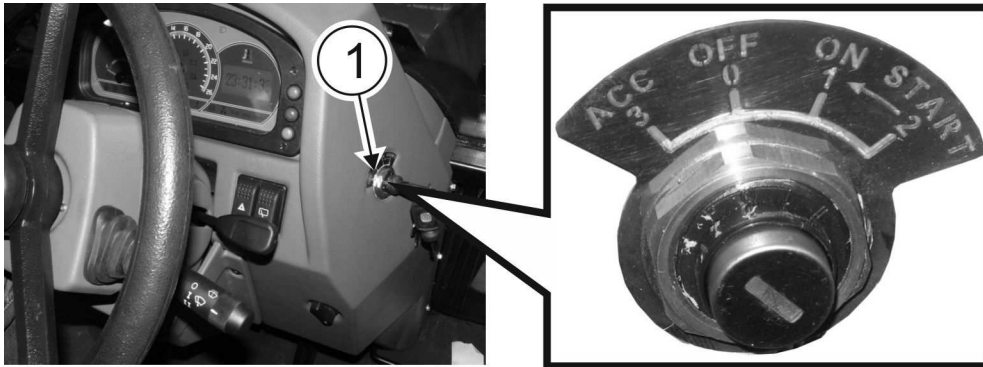

FIGURE 3.17 Engine start-up control.
When the ignition key is turned to position 1 (ON) (FIGURE 3.17) and the tractor's engine is started, the following operating parameters of the tractor are shown on LCD display:
-  - engine oil pressure indicator light. It illuminates when pressure falls below the allowable level. It is also on when ignition key is in position **1 (ON)** (FIGURE 3.17);
- oil pressure in steering system indicator light. It illuminates when pressure during engine operation falls below the allowable level. It is also on when ignition key is in position **1 (ON)** (FIGURE 3.17); Momentary flashing is possible.
- battery charging indicator light. If light comes on during engine operation that signifies malfunction and it must be corrected. It is also on when ignition key is in position 1 (ON) (FIGURE 3.17);
On the right side of the dashboard, there is starter switch (ignition) **(1)** (**FIGURE 3.17**) which has four positions: